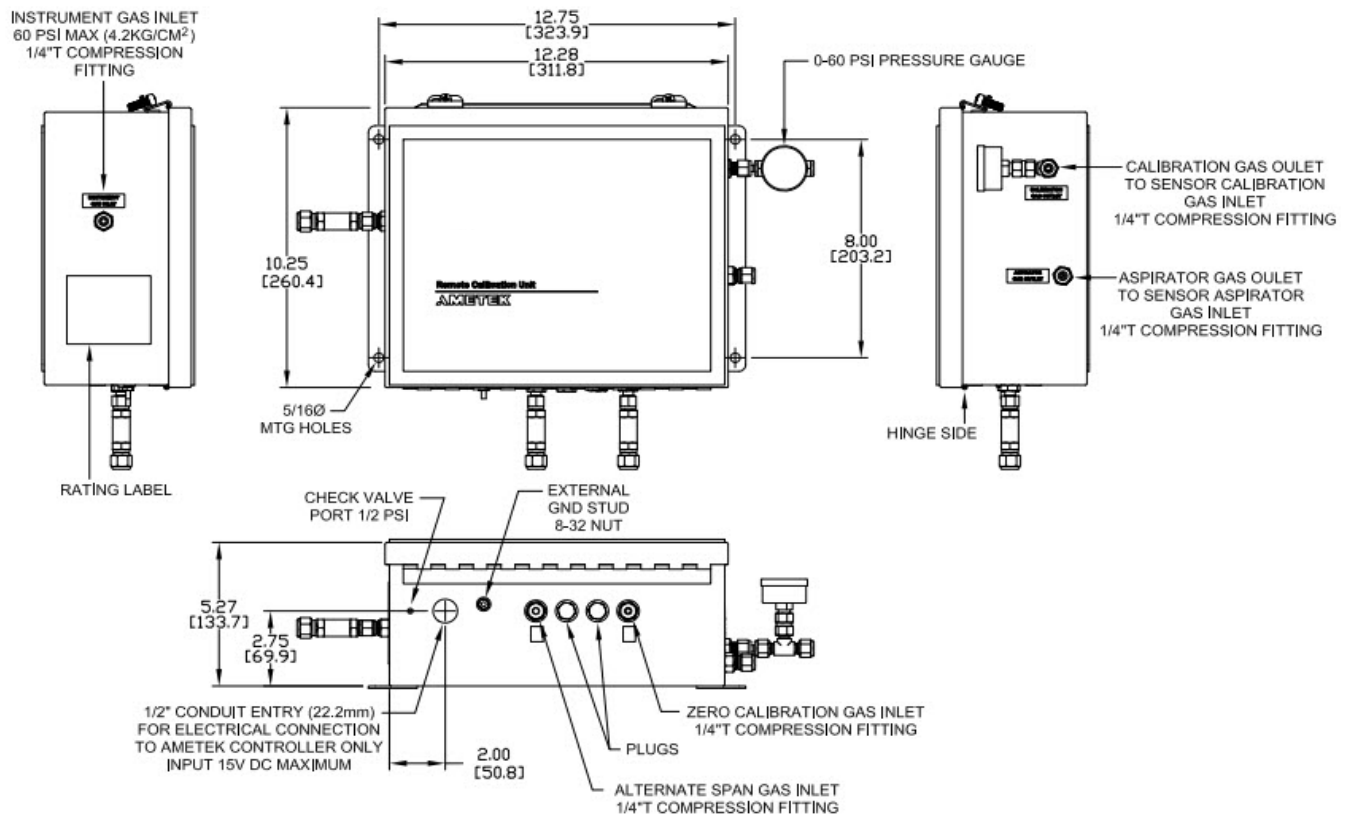

Figure 2-5.1.
Connect N₂ aspirator supply to the aspirator inlet on the analyzer (see Figure 2-5.1). Adjust the aspirator regulator to the minimum pressure required to get a response from the analyzer (typically 3–5 PSI above the process pressure).
A calibration gas inlet port (see Figure 2-5.1) is provided to allow you to calibrate the system. During calibration, turn off the aspirator supply and inject calibration gases into the calibration gas inlet port on the analyzer. During normal operations, plug this calibration gas inlet port. The zero and span calibration gases should be set to 3 SCFH and will require about 10 PSIG relative to the process pressure. If the process is running 110 PSI, the gas pressure needs to be 120 PSI.
Figure 2-5.1 shows mounting dimensions for a standard RCU. Use two #10 screws to mount the RCU. Note that only the top left and lower right holes are used; the other holes hold the RCU to its mounting plate. The ambient temperature range for the RCU is -20 °C to 70 °C. Mount the RCU as close to the analyzer as possible. Shorter calibration plumbing improves response times, reduces calibration gas expense, and reduces the chance of contaminants in the calibration gas plumbing.
4. Using appropriate tubing, connect the calibration gas outlet on the right side of the RCU to the calibration gas inlet on the analyzer. See Figure 2-5.1 for analyzer calibration gas inlet connection.